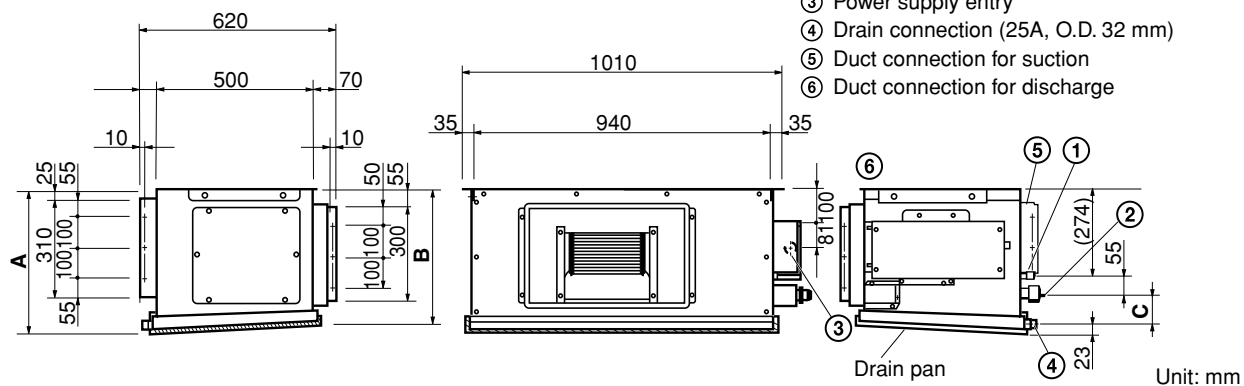

Fig. 3-97b
- Fig. 3-97b and Table 3-6 show the detailed dimensions of the indoor unit.